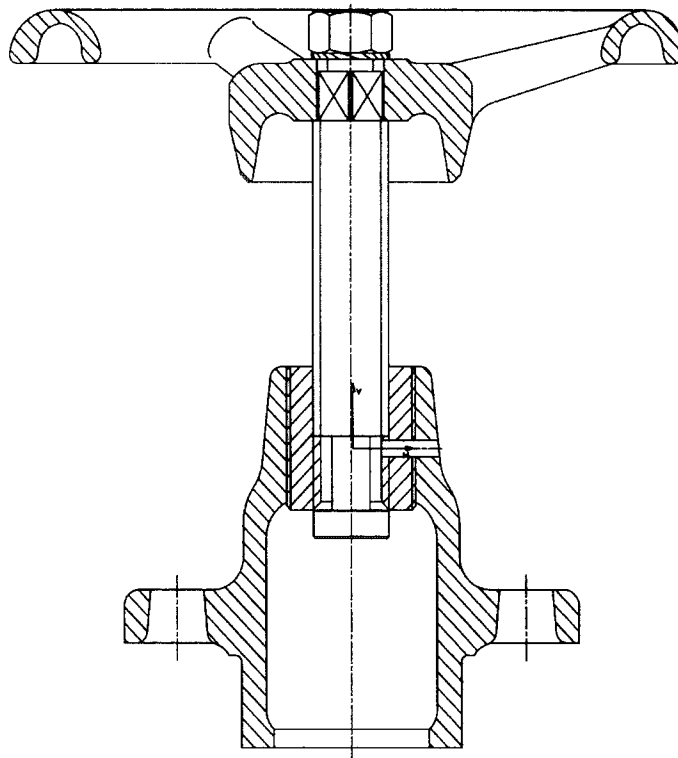

Fig.5
- Clamp the bonnet in the vice unscrew the threaded bush using spindle and hand wheel (see Fig. 5)